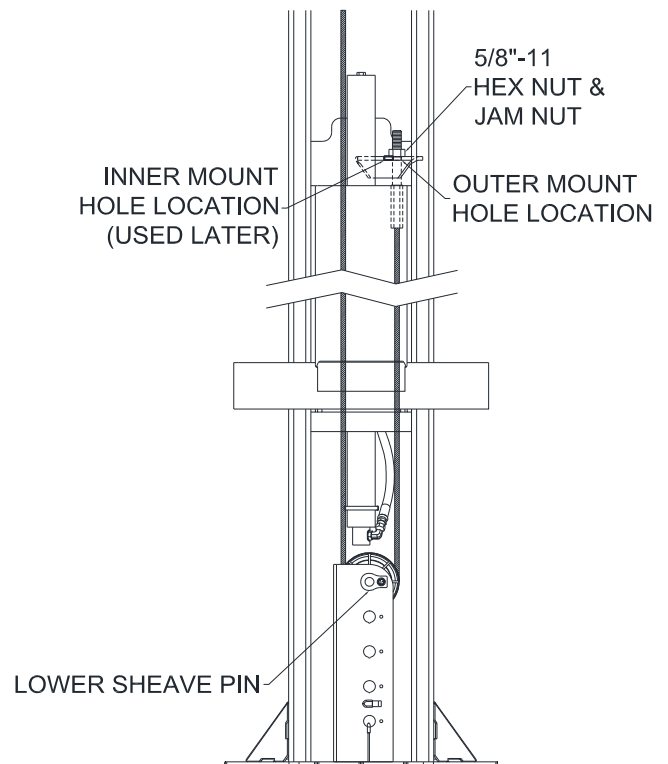

Fig. 2 – Cable Routing LAYOUT
- Remove hex bolt and sheave pin from sheave bracket, **Fig. 2**.
- 4) Route cables as shown in **Fig. 2** and **Fig. 4**. Ensure cables do not wrap around hoses during routing.